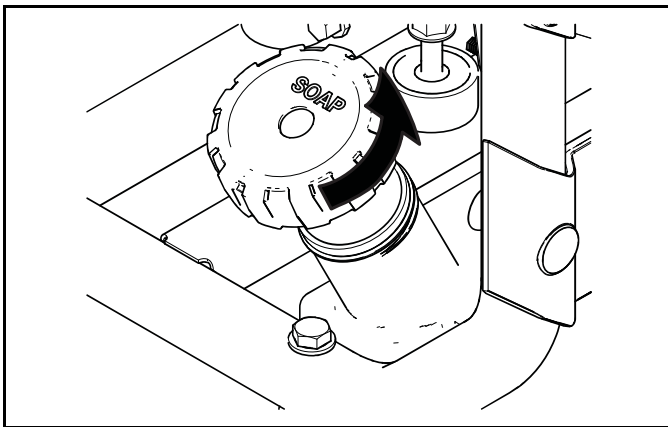

Figure 4-22. Chemical Tank & Cover
2. Remove chemical tank cap (Figure 4-22).